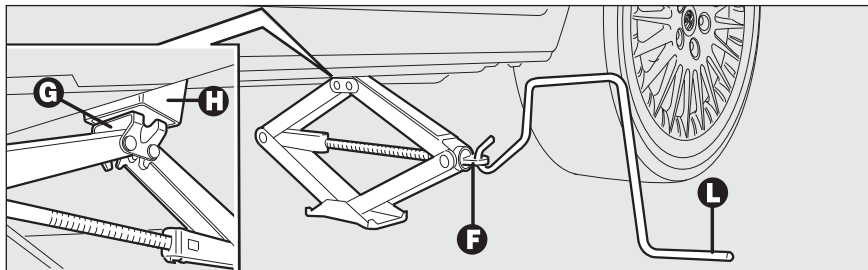

fig. 8
- Operate the device **F-fig. 8** to extend the jack until the top of the jack **G** fits correctly into catch **H**;
- Fit the handle **L-fig. 8** to operate the jack and lift the car until the wheel to be changed is several centimetres off the ground;